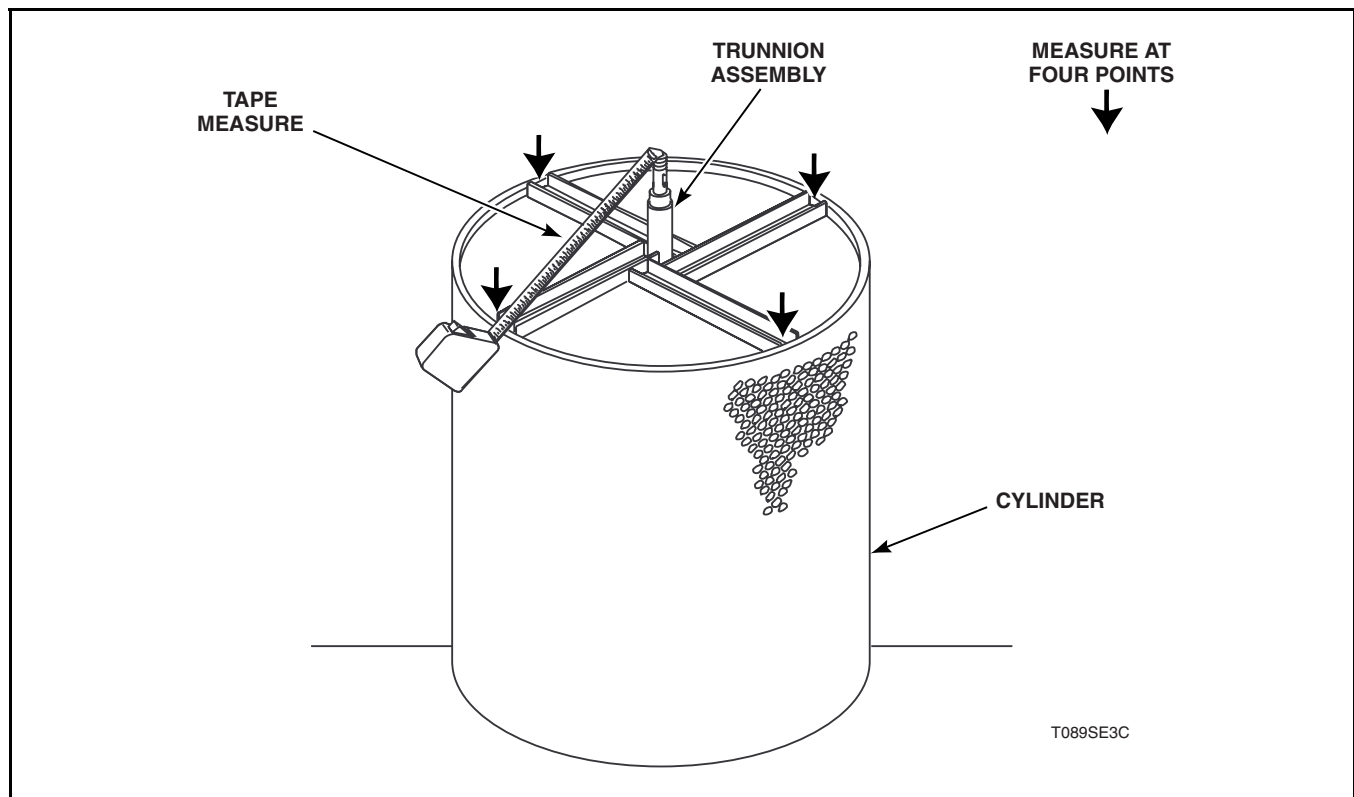

Figure 15
Refer to *Figure 15*.
**IMPORTANT:** When installing trunnion assembly on cylinder, the cylinder and shaft must be aligned. Refer to *Figure 15* for an example of how to check for proper alignment of the shaft and cylinder. Measure the distance between the center of the